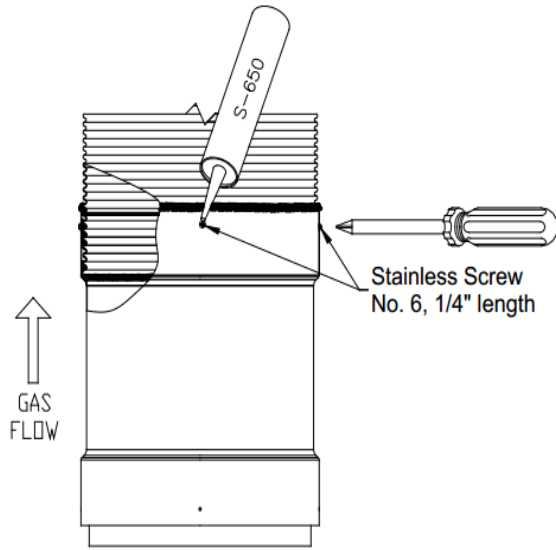

Figure 21 -DuraSeal Flex screws
2.5. Add the red S-650 caulking over the screws (Figure 21).